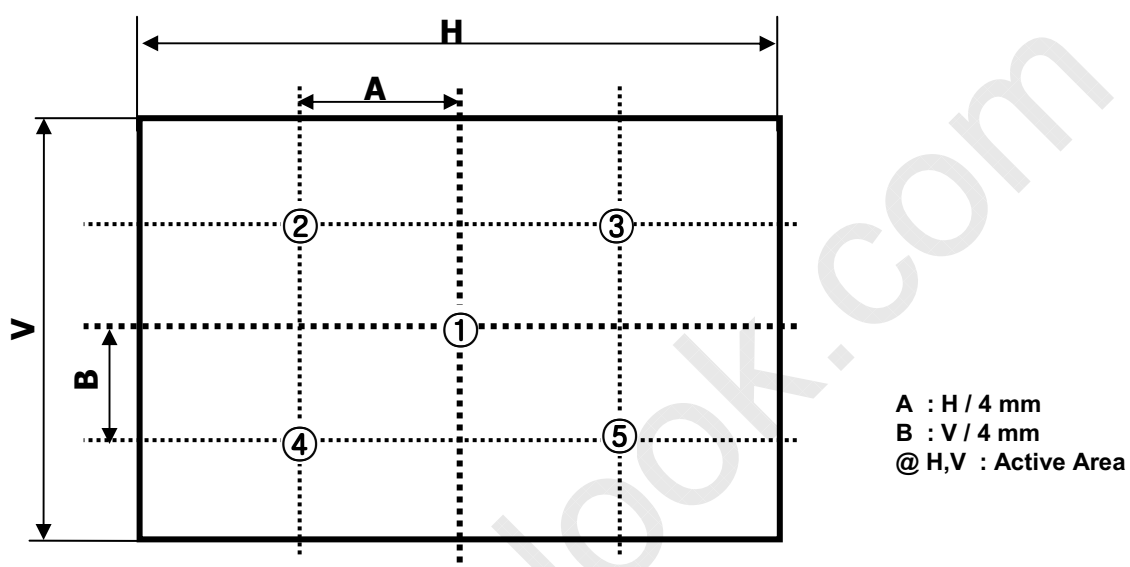

FIG. 2 5 Points for Luminance Measure
n = the Position number(1, 2, 3, 4, 5). For more information, see FIG 2.
2. Surface luminance is determined after the unit has been 'ON' and 1hour after lighting the backlight in a dark environment at  $25 \pm 2^\circ\text{C}$ . Surface luminance is the luminance value at center 1-point across the LCD surface 50cm from the surface with all pixels displaying white. For more information see the FIG. 2.
For more information, see the FIG. 2.